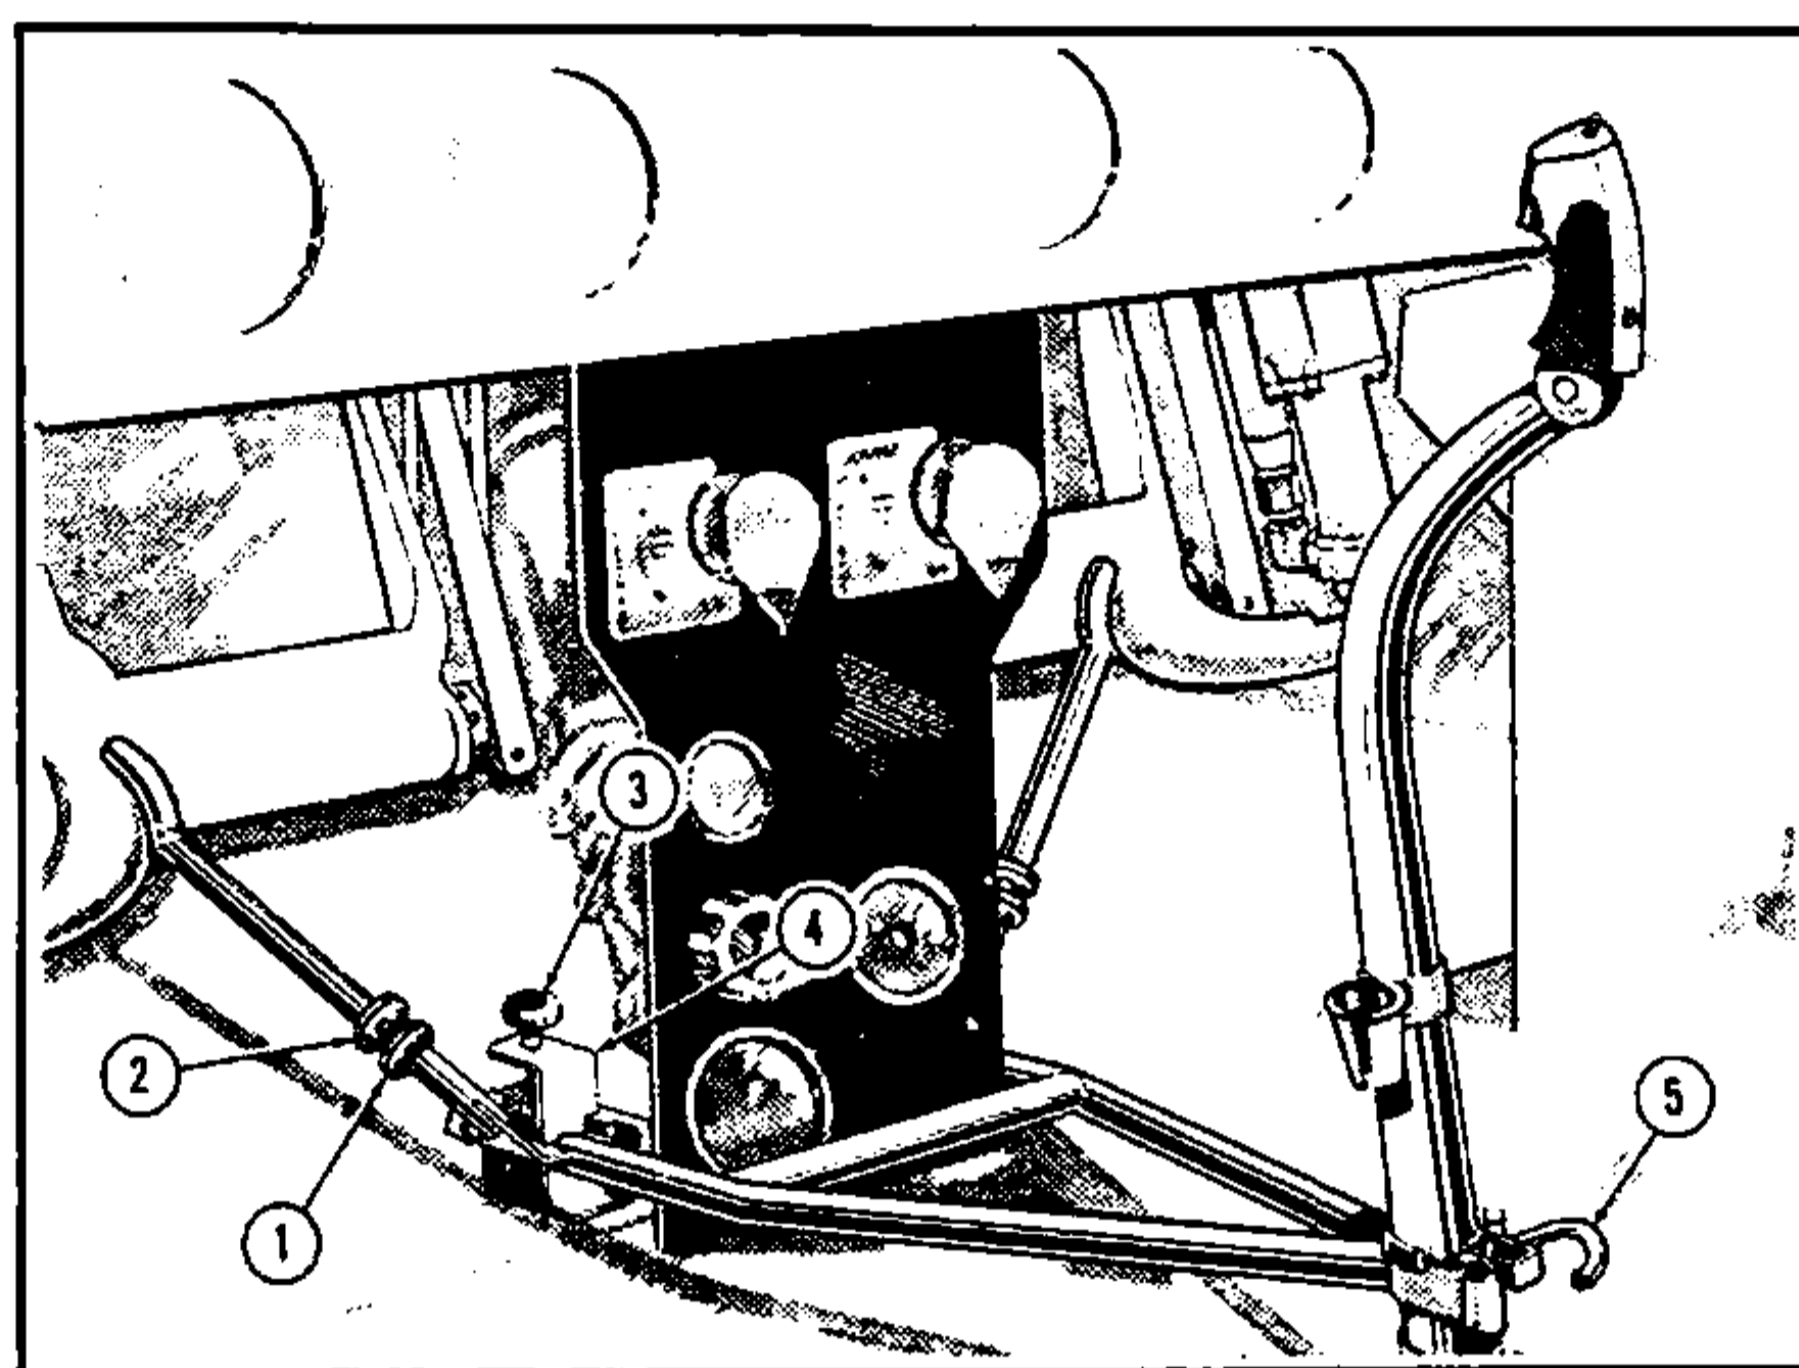

Figure 51 — Surface Control Lock
h. SURFACE CONTROL LOCK. — Whenever the plane is to be moored out, the elevators, rudder and ailerons should be fixed in position to avoid wind damage to these surfaces and their controls. The Y-shaped control lock shown in figure 51 serves this purpose by holding both the stick and the rudder pedals rigidly.